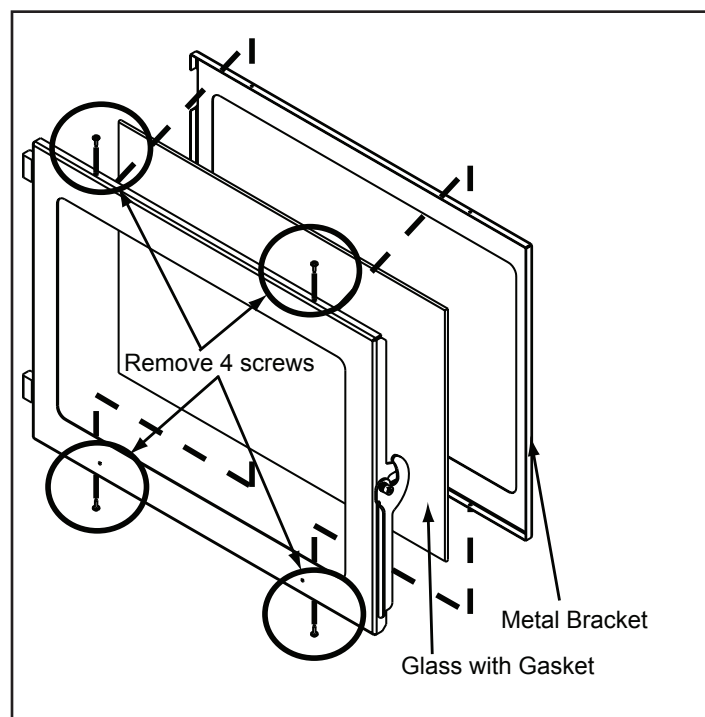

Figure 30.2
- Using a Phillips head screw driver, remove 4 screws, 2 on the top and 2 on the bottom. Remove metal bracket and then remove the glass. **Figure 30.2.**